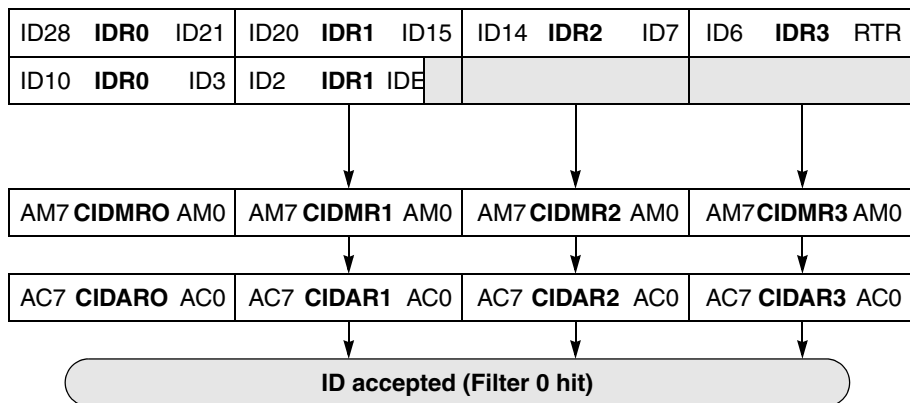

Figure 18-3. 32-bit Maskable Identifier Acceptance Filters
- Two identifier acceptance filters, each to be applied to the full 29 bits of the identifier and to the following bits of the CAN frame: RTR, IDE, SRR. This mode implements a two filters for a full length CAN 2.0B compliant extended identifier. Figure 18-3 shows how the first 32-bit filter bank (CIDAR0–3, CIDMR0–3) produces a filter 0 hit. Similarly, the second filter bank (CIDAR4–7, CIDMR4–7) produces a filter 1 hit.